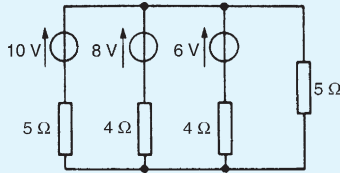

Figure 13.80
- For the network shown in Fig. 13.80, convert each branch containing a voltage source to its Norton equivalent and hence determine the current flowing in the  $5\Omega$  resistance.